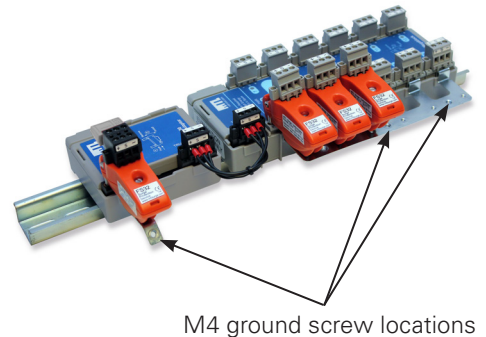

Figure 4.8 - With some FS32 modules
3. Use an M4 screw and ring terminal to connect the grounding bar to a suitable low-impedance ground point - see Figure 4.8.